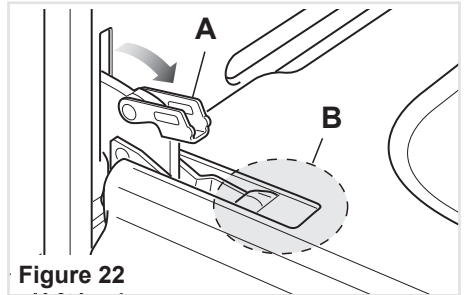

Figure 22
- Open the lever "A" completely on the left and right hinges (fig. 22).
- Gently close the door until left and right hinge levers "A" are hooked to part "B" of the door (figs. 22, 23).